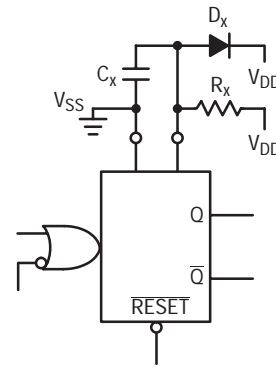

Figure 11. Use of a Diode to Limit Power Down Current Surge
9. If $C_X > 15\ \mu F$, use discharge protection diode per Fig. 11.
When a more rapid decrease of V_{DD} to zero volts occurs, the MC14538B can sustain damage. To avoid this possibility use an external clamping diode, D_X , connected as shown in Fig. 11.